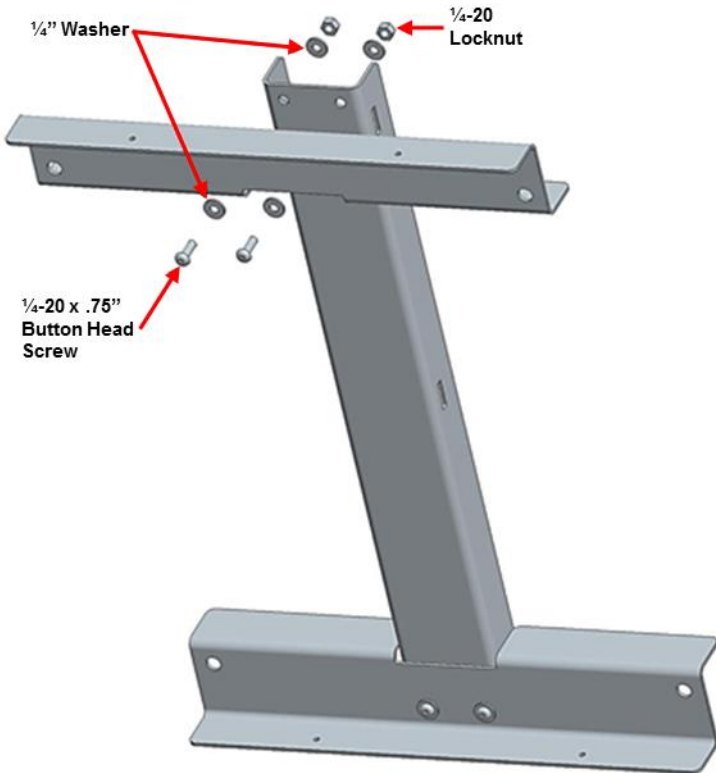

Figure 25: Pole Mount Assembly
1. Attach the pole mount bracket to the cross bars using provided 1/4" screws, washers and locknuts as shown in Figure 25.